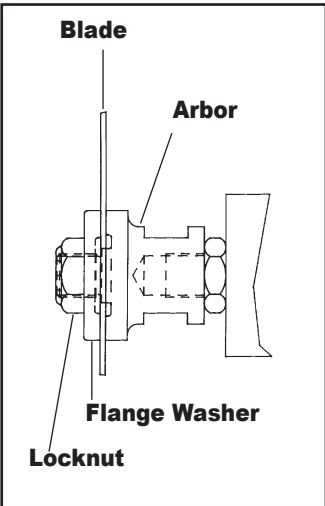

FIG. 2
- a. Standard Arbor - Install the blade on the $\frac{5}{8}$ diameter arbor shoulder (Fig. 2). Install the flange with the relieved side toward the blade and screw on the locknut. While holding a wrench (supplied) on the $\frac{7}{8}$ arbor flats, tighten the arbor locknut. The blade must seat fully on the arbor shoulder and flush against the face of the arbor.